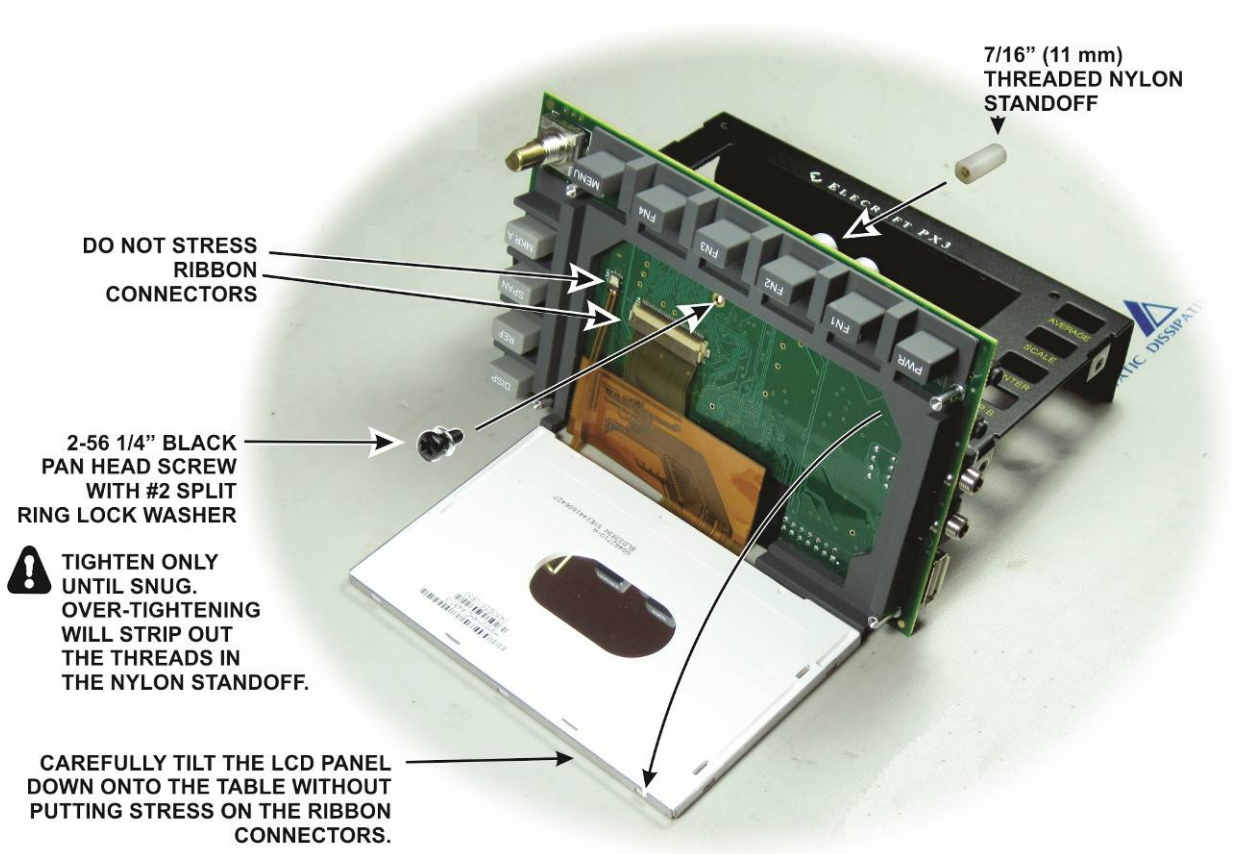
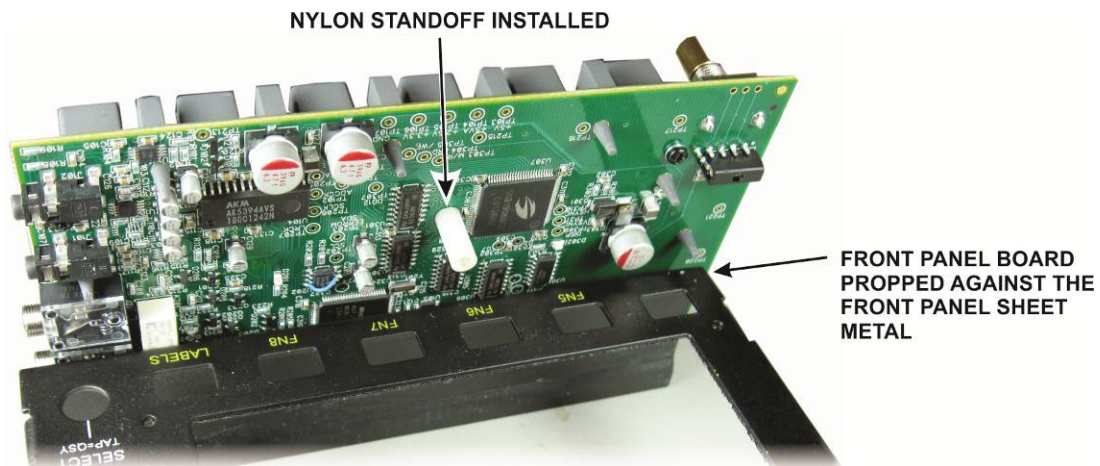

Figure 26. Installing the Nylon Standoff on the Front Panel PC Board.
Figure 27. Nylon Standoff Installed.
☐ Locate the front panel. On the inside are four small pieces of conductive tape covering screw holes at each corner of the large opening for the LCD (see Figure 26). **Do not remove this tape!** It provides an essential ground for the LCD when the front panel board is mounted. Use a sharp knife point or other tool to open the tape over each screw hole. Work from the inside so you do not push the tape away from the panel. This is needed to mount the front panel board later, but first you will need to prepare the front panel board for installation in the next few steps.
□ Place the front panel face up on your work table. Carefully remove the rubber band holding the LCD in place and prop the front panel board up on its **top** edge against your work table. Install the threaded nylon standoff on the board as shown in Figure 26. Tighten only until the standoff is snug. Do not over-tighten or you will strip the threads in the standoff. The installed standoff is shown Figure 27, If one of the ribbon cables does come loose, see *Replacing the LCD* on page 52.